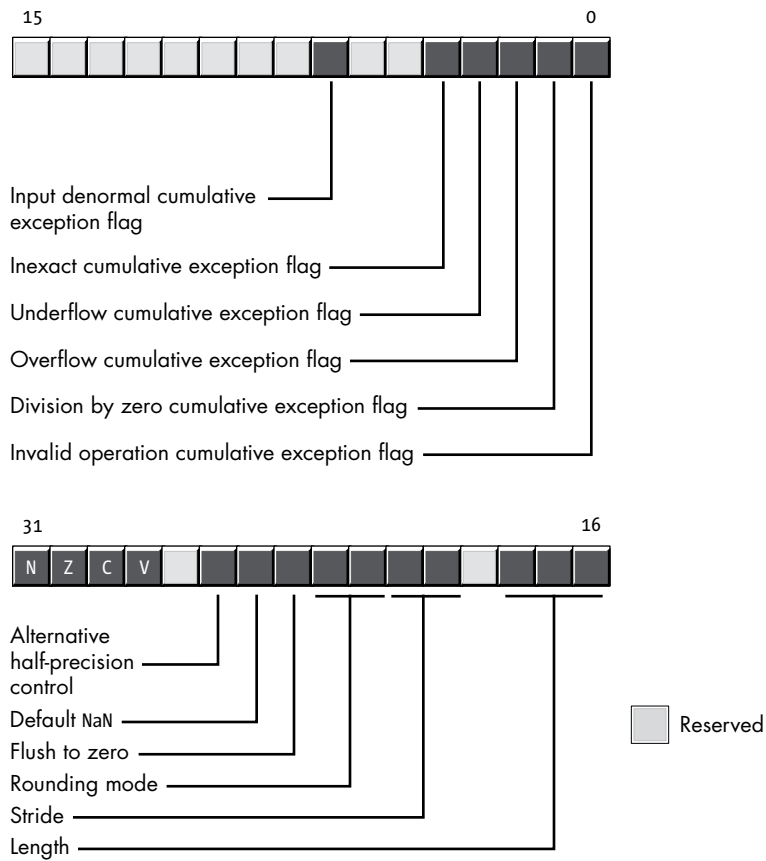

Figure C-1: ARM FPSCR register
- One floating-point status and control register (FPSCR; see Figure C-1)